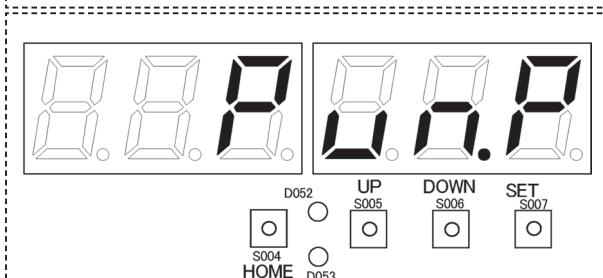

Figure 8
4) Press the SET (S007) key in the forced cooling test run setting mode to select one of the displays shown in the table below. Press the UP (S005) or DOWN (S006) key to select “**P u n P**” (forced coolant circulation setting). (Figure 8)